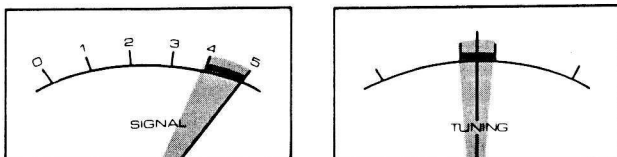

Fig. 9
3. Select the broadcasting station with the tuning knob. Adjust so that the SIGNAL meter pointer deflects as far to the right as possible and so that the TUNING meter pointer is centered, as indicated in Fig. 9.